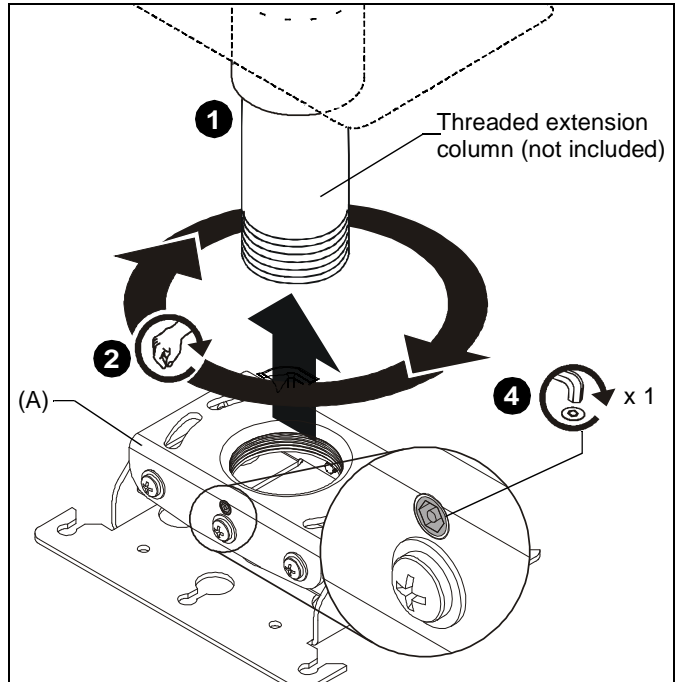

Figure 1
4. Secure RPA to pipe by turning set screw until tight. (See Figure 1)